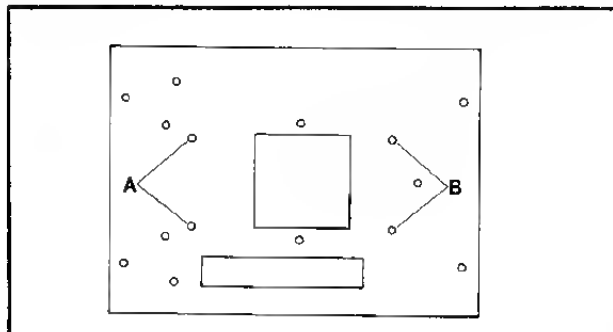
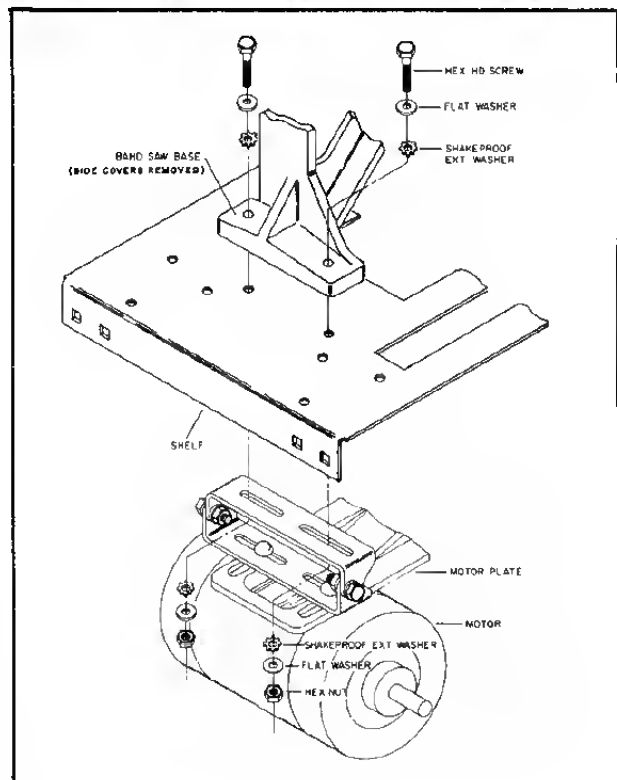

Fig. 7
Fig. 8
Place the band saw on the top shelf of the stand, lining up the four holes in the band saw base with the four holes (A) and (B) Fig. 7, in the top of the shelf. Fasten the rear base of the band saw to the two holes (B) Fig. 7, of the shelf, using the two hex head screws, four flat washers, four external tooth lockwashers and two hex nuts supplied. Make sure the motor is DISCONNECTED from the power source and hold the motor and hinge bracket assembly in place under the two holes (A) Fig. 7, of the top shelf. Assemble the band saw and motor and hinge bracket assembly to the two holes (A) Fig. 7, in the top shelf of the stand using the two hex head screws, four flat washers, four external tooth lockwashers and two hex nuts, as shown in Fig. 8. **CAUTION:** The proper grounding of the motor to prevent shock hazard, depends on the use of the shakeproof lockwashers in the manner shown in Fig. 8.